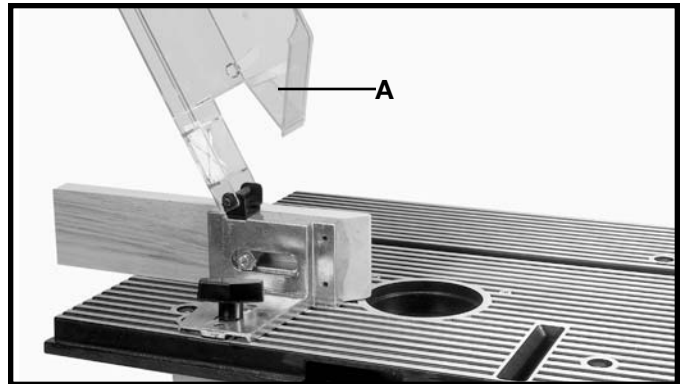

Fig. 21
The guard (A) can be moved up and out of the way as shown in Fig. 21, when changing bits and cutters.